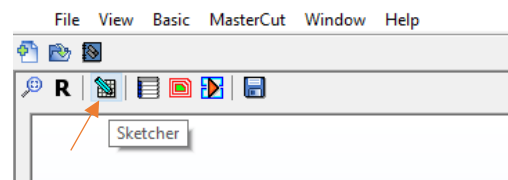

Figure 254
46. Enter the Sketcher Space by pressing shortcut **S** or clicking on the sketcher button  in our toolbar (Figure 254).